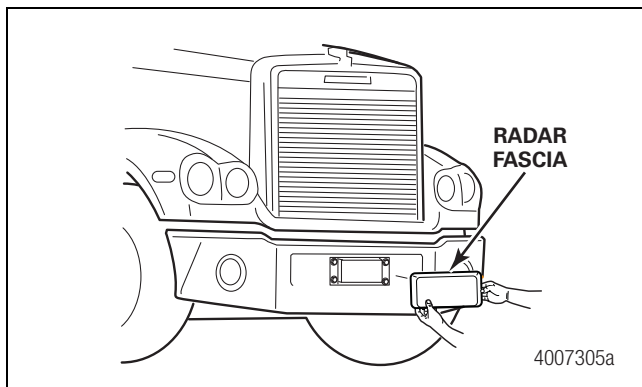

Figure 3.1
3. Remove the three fascia mounting bolts and remove the fascia from the radar sensor. Figure 3.1.
10. Replace the fascia using the M6 x14 mm flange head bolts (bolt class ISO 8.8) or M6 bolt with 12 mm washer that was removed or recommended hardware per OEM requirements. Dry tighten the bolts to 91 in-lb (10.3 N•m). Figure 3.1. **ⓘ**